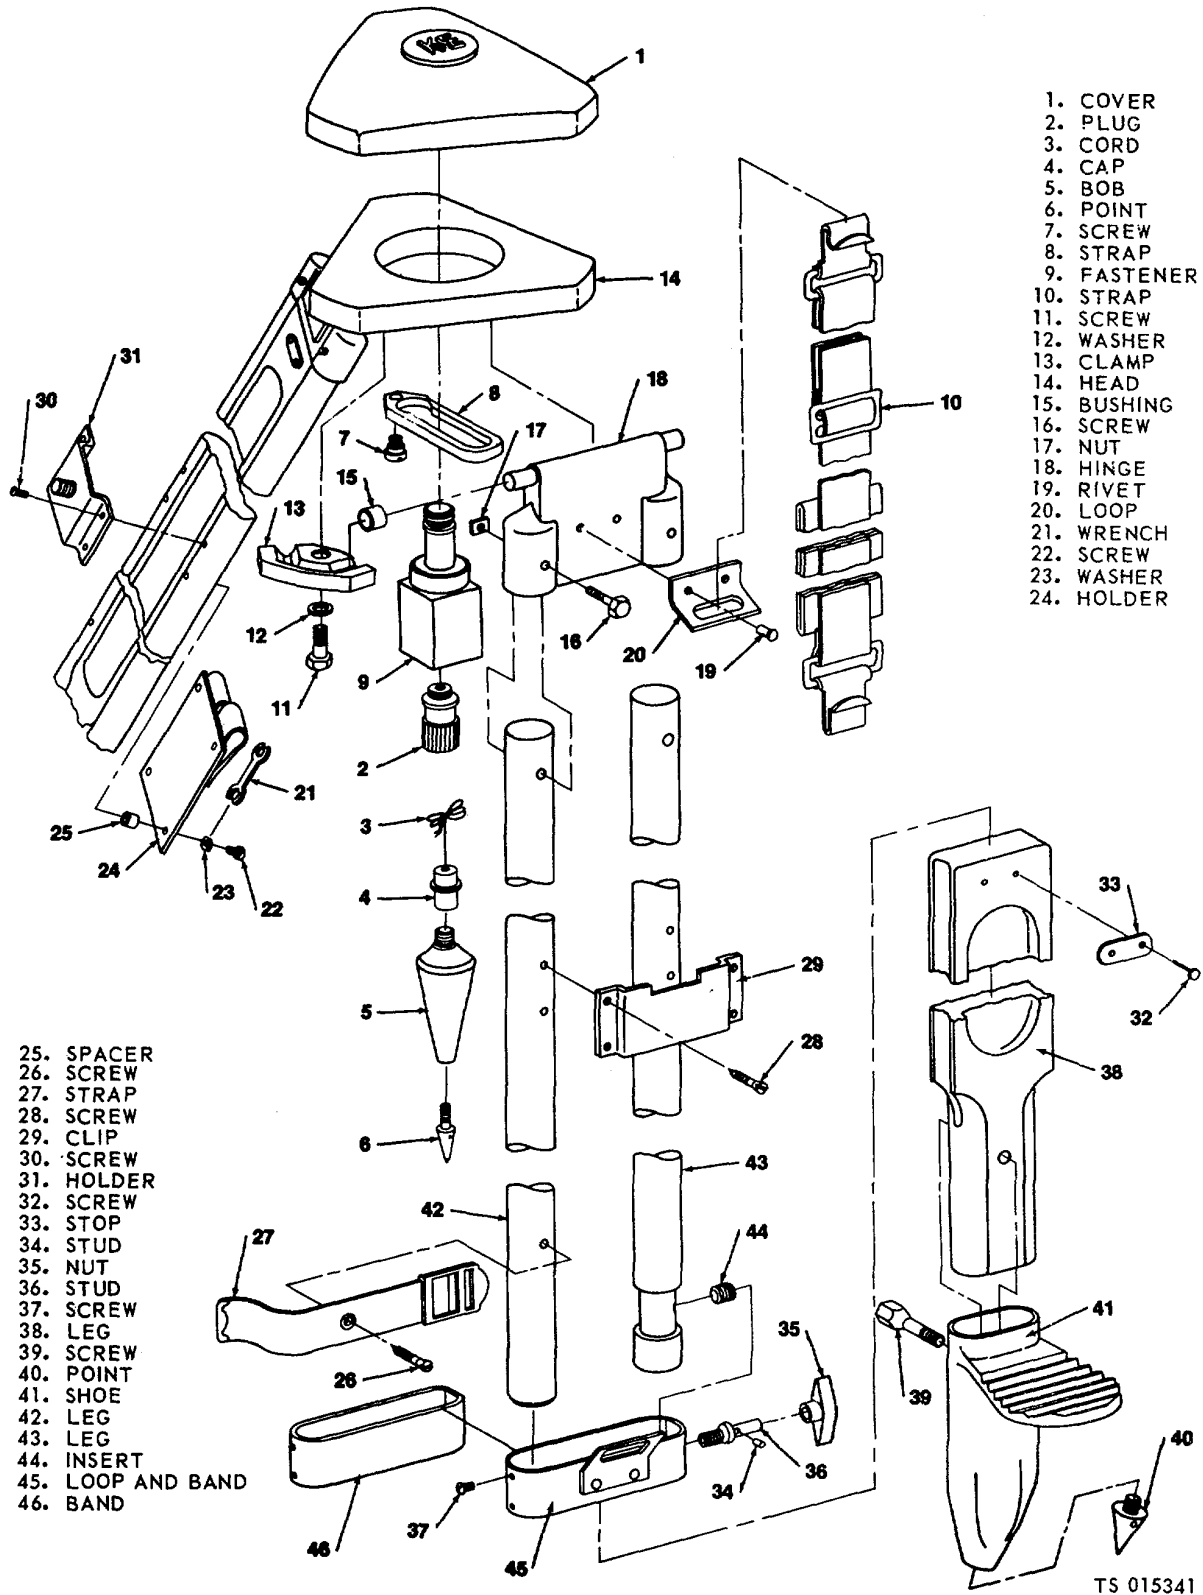

Figure 4-3. Tripod, exploded view.
- a. *Disassembly.* Refer to figure 4-3 and disassemble the tripod.
- (6) Replace all defective parts that cannot be repaired.
- d. *Reassembly.* Refer to figure 4-3 and reassemble the tripod.
- a. *General.* Refer to figure 4-3 and disassemble the plumb bob.
- (1) Clean all metal parts with an approved cleaning solvent, P-D-680, and dry thoroughly.
- (2) Inspect the bayonet socket, ring, slide, and plumb bob for signs of wear, cracks or breaks. Inspect the lugs on the bayonet socket for burrs.
- (3) Remove all burrs and replace damaged or defective parts. Use new cord when reassembling the plumb bob.
- c. *Reassembly.* Refer to figure 4-3 and reassemble the plumb bob.
- (1) *Removal.* Remove the tripod wrench from the holder (fig. 4-3).
- (2) *Cleaning, Inspection and Repair.*